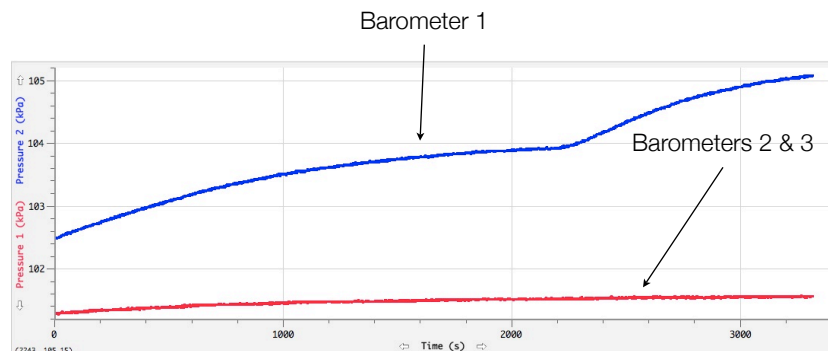

Figure 6
20. This next graph should display barometer 1 going above barometers 2 and 3 as barometer 1 becomes acclimated to the warmer temperatures around it (Figure 6).